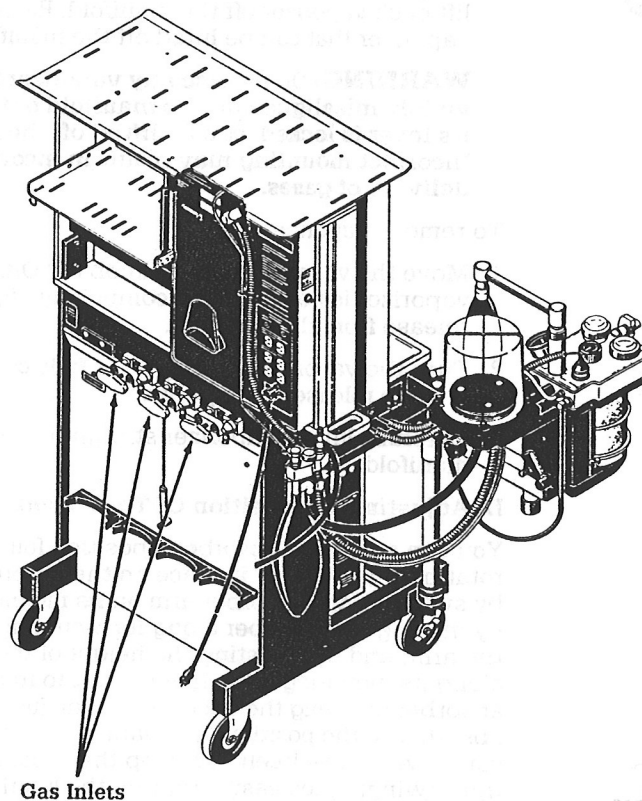

Figure 2-24
2. Connect the hospital's oxygen pipeline to the system's oxygen pipeline inlet, which is labeled "O₂ Pipeline Inlet." (See figure 2-24.)